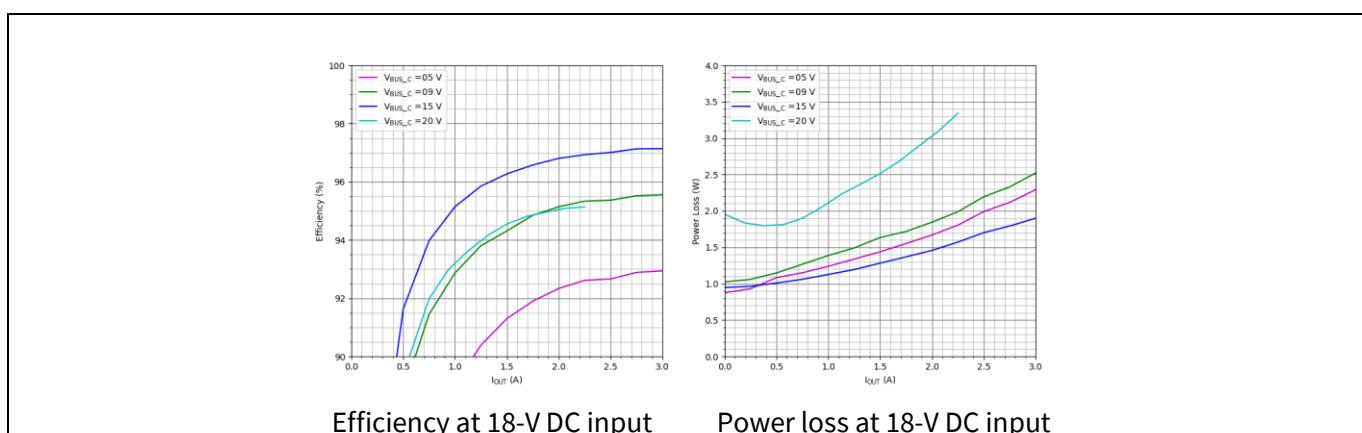

Figure 8 Efficiency and power losses at 18-V DC input
- Efficiency, losses at 18-V DC input, Port #0 and Port #1 V_{BUS_C} 5 V, 09 V, 15 V, 20 V are shown in Figure 8.